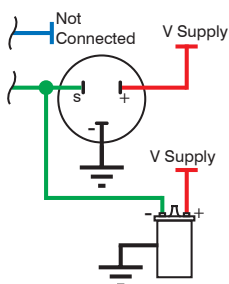

Figure 10
- Refer to the connection in **“Figure 9 - Tacho Input Connections”** and **“Figure 10”**.